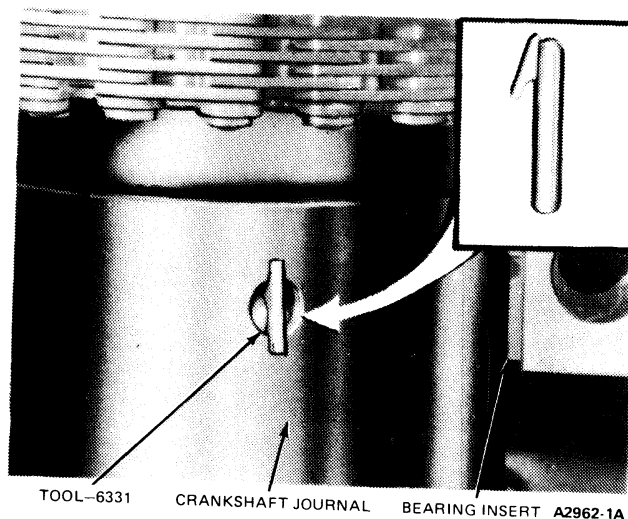

FIG. 41 Removing or Installing Upper Main Bearing Insert
3. Insert the upper bearing remover (Tool 6331) in the oil hole in the crankshaft journal (Fig. 41).
To install the upper main bearing, place the plain end of the bearing over the shaft on the locking tang side of the block and partially install the bearing so that Tool 6331 can be inserted in the oil hole in the crankshaft journal (Fig. 41). With Tool 6331 positioned in the oil hole, rotate the crankshaft slowly in the opposite direction of engine rotation until the bearing is seated. Remove the tool.